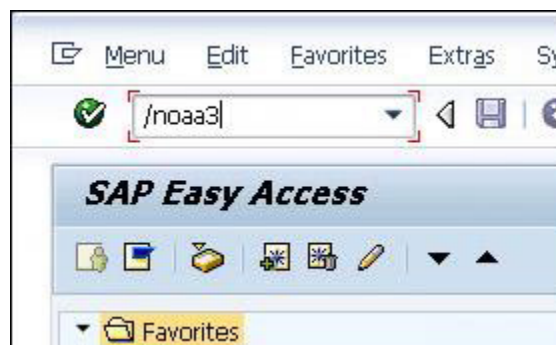

Figure 8-1 SAP Ribbon
1. In the ribbon (Figure 8-1 SAP Ribbon), type `/noac0`; then press **Enter**.